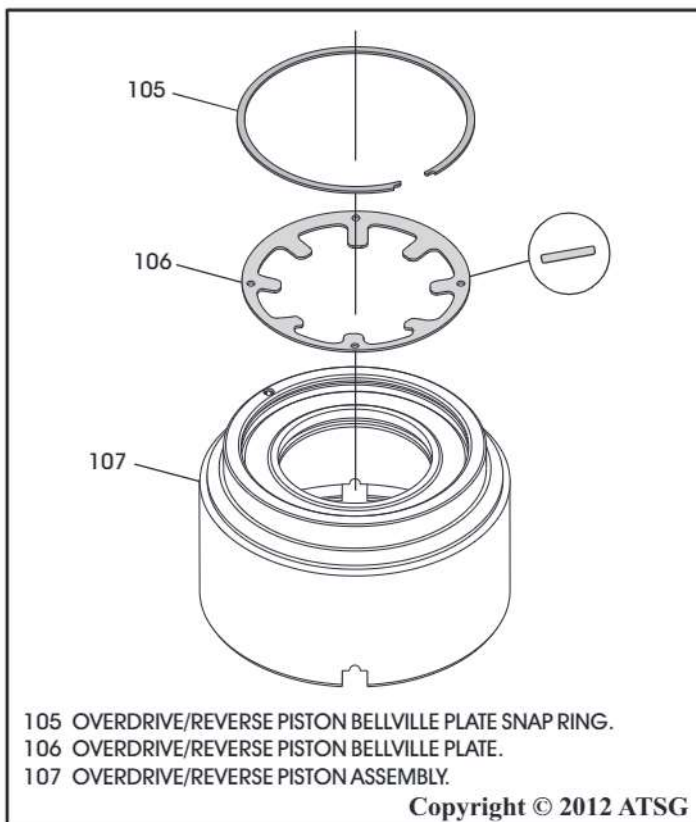

Figure 178
9. Install the overdrive/reverse piston "bellville" plate and the snap ring in the direction shown in Figure 178.